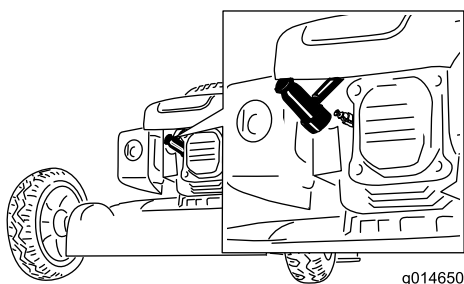

Figure 37
2. Disconnect the spark-plug wire from the spark plug (Figure 37) before performing any maintenance procedure.